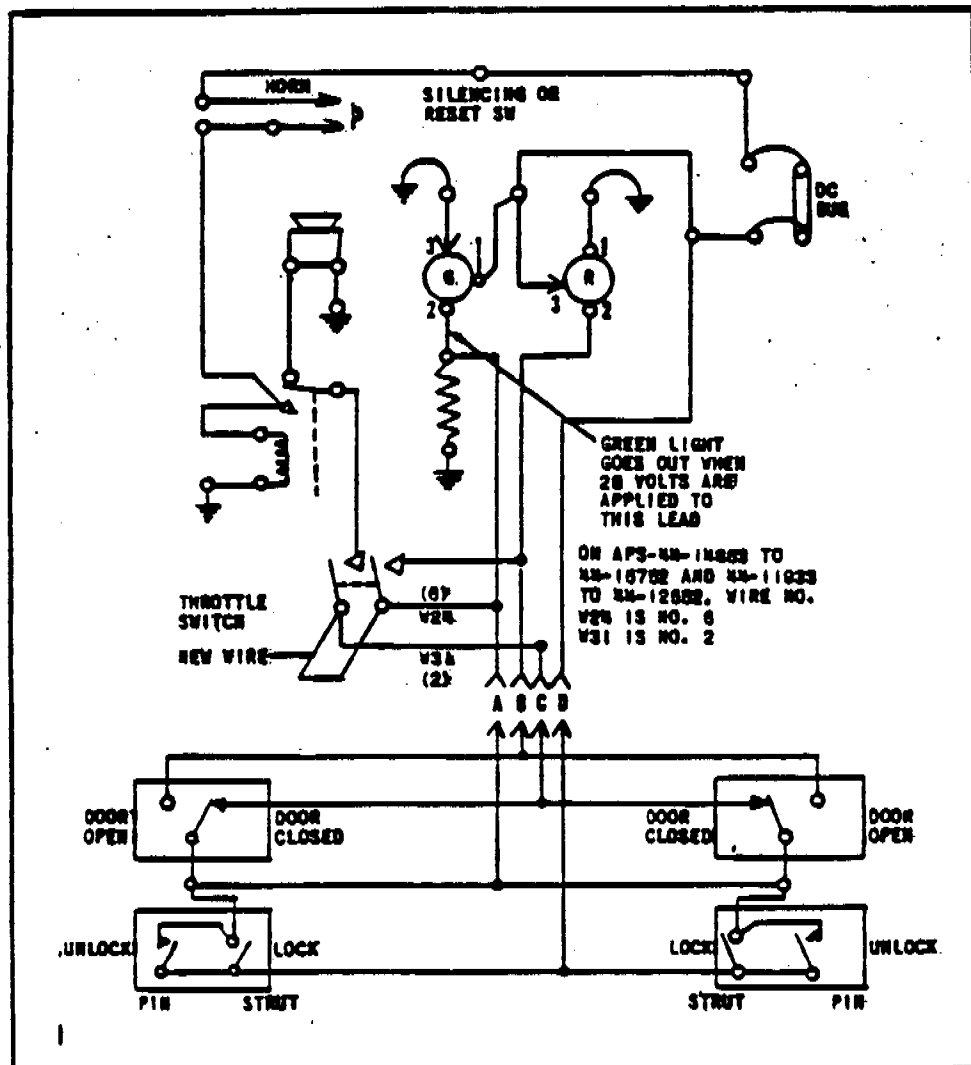

Figure 1
(1) With wheels "DOWN" and "LOCKED," green light will be on and horn will not sound regardless of throttle position.
(2) With wheels in an intermediate position but not locked, red light will be on. Horn will blow if throttle is retarded.
(3) With wheels "UP" and "LOCKED" and fairing doors closed, horn will not sound and red light will be out if throttle is forward. Retard throttle and red light will come on; horn will sound.
(4) Horn can be silenced by momentarily operating silencing switch. Horn silencing feature will release when throttle is advanced. Refer to figure 1 for wiring diagram.
3. Fabricate a jumper wire approximately 4 inches long of No. 18 aircraft low-tension cable. Attach a terminal lug to each end of the wire and connect the wire between wires Nos. W31 and W24 at the throttle switch. (See figure 1.) This switch may be found slightly below and forward of the throttle quadrant, on the left side of the cockpit.